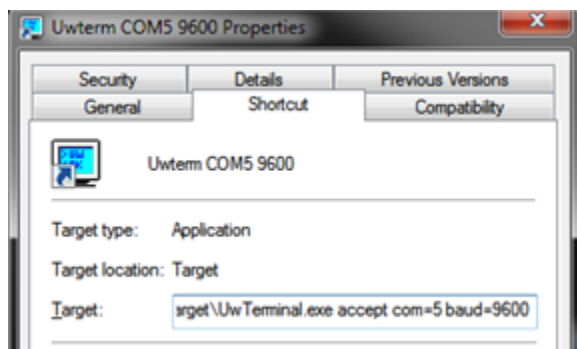

Figure 7: Shortcut properties
4. Edit the **Target** line to add the following commands (Figure 7):